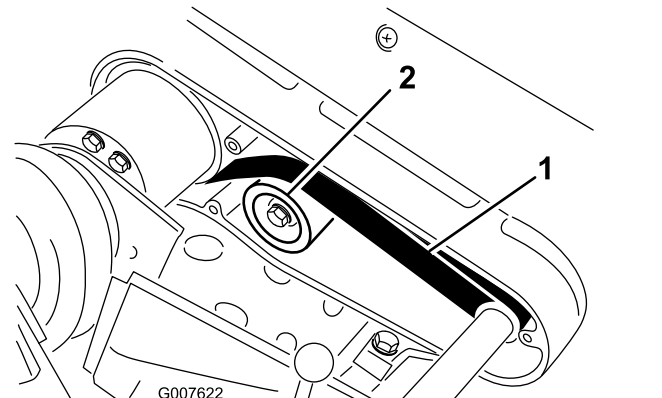

Figure 45
- 2. Check the tension by pressing the belt at mid span of the pulleys (Figure 45) with 22 to 26 N (5 to 6 lb) of force.
- A. Loosen the idler pulley mounting nut and pivot the idler pulley clockwise against the backside of the belt until the desired belt tension is attained (Figure 45).